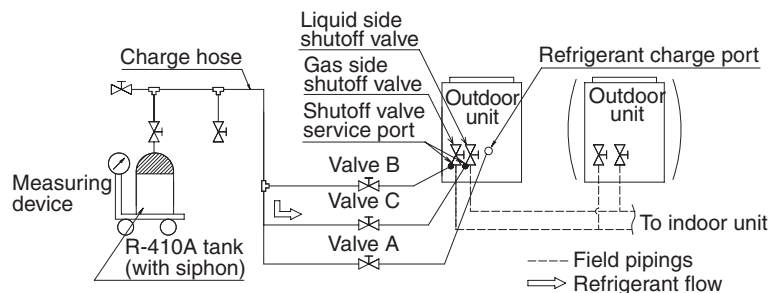

figure 31
3. Open the valve C (See the figure 31. The valve A, B and the liquid and gas side shutoff valve must be left closed), and charge the refrigerant of the "additional charging amount" from the liquid side shutoff valve service port.